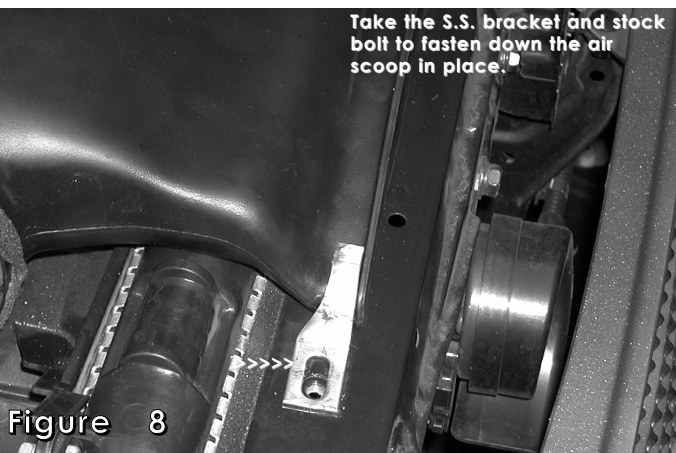

Figure 8
- 7- Remove the m6 bolt by the air scoop and position the S.S. formed bracket in place. Replace the m6 bolt with the bracket and tighten down. (See fig. 8)